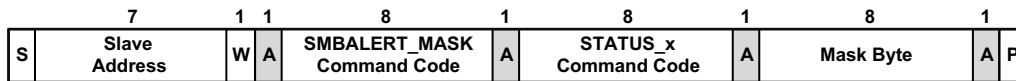

Figure 31. SMBALERT\_MASK Command Packet Format
The command format used to block a status bit or bits from causing the SMBALERT# signal to be asserted is shown in Figures 31 and 32. The bits in the mask byte align with the bits in the corresponding status register. For example, if the STATUS\_TEMPERATURE command code were sent with the mask byte 0100000b, an over-temperature warning condition would be blocked from asserting SMBALERT#.
**Note:** Figure 31 shows the command format used by the host to determine the SMBALERT\_MASK setting for a given status register.